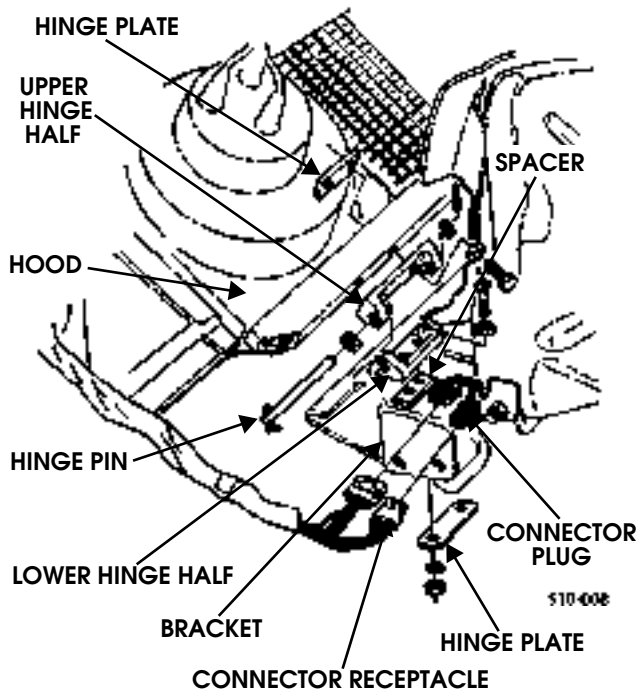

Figure 10-84: Hood and Hinge Assembly Breakdown
2. Disconnect two connector plugs from connector receptacles (Figure 10-84).
4. Remove cotter pin, two washers, and prop rod from hood (Figure 10-84).
6. Remove four bolts, washers, two upper hinge halves, and hinge plates from hood (Figure 10-84).
1. Secure two spacers, two lower hinge halves and hinge plates to two brackets with four washers, bolts, washers, and locknuts. Do not tighten bolts (Figure 10-84).
5. Secure hood prop rod to hood with two washers and cotter pin (Figure 10-84).